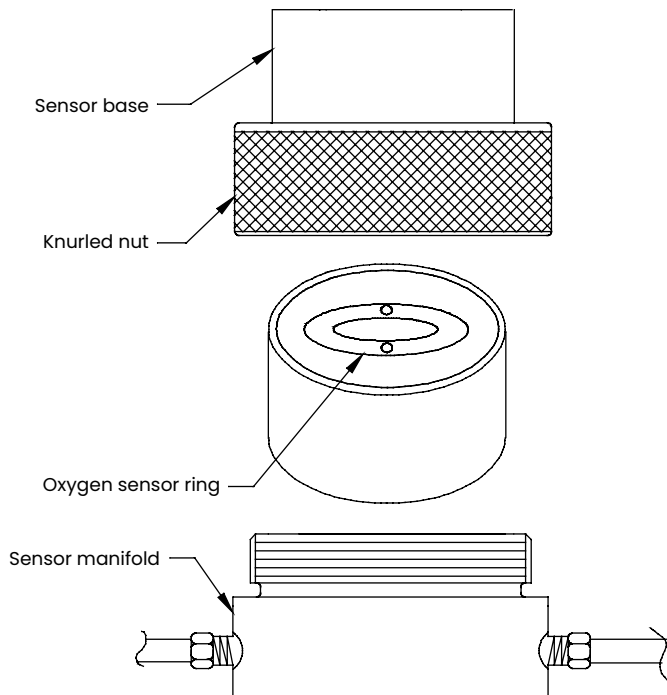

Figure 6: Oxygen sensor installation
To install a new or replacement oxygen sensor in the oxy.IQ, refer to figure 6 below and complete the following steps:
6. Orient the sensor so that its gold-plated electrodes are facing the spring-loaded contact pins in the sensor base (see figure 6). Firmly press the oxygen sensor into the sensor base at the bottom of the oxy.IQ electronics module.